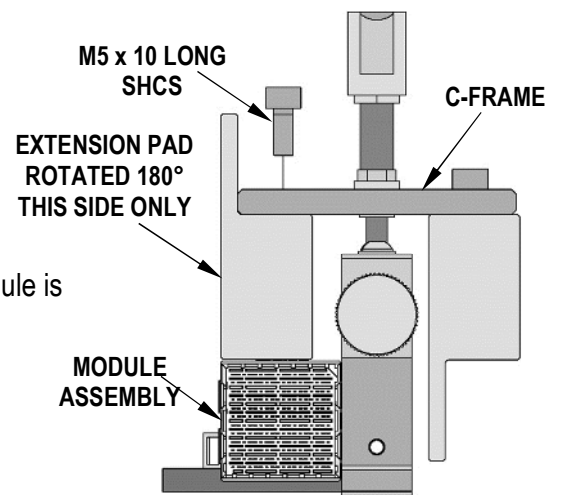

Figure 13
1. Remove the M5 x 10 long SHCS on the side where the extra module is located. See Figure 13.